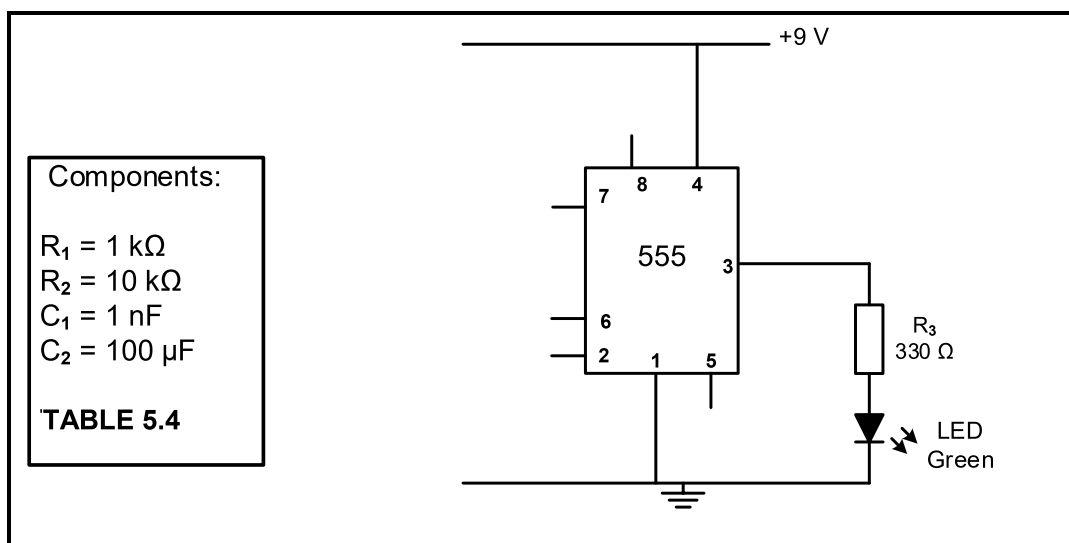

FIGURE 5.4: 555 IC PARTIAL ASTABLE CIRCUIT
- 5.4 Refer to FIGURE 5.4 below and complete the drawing by using the components in TABLE 5.4 on the ANSWER SHEET for QUESTION 5.4 to create an astable multivibrator.